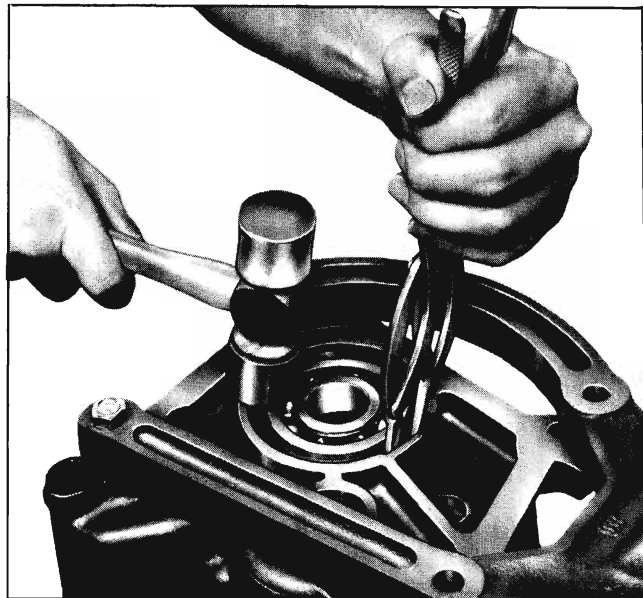

Fig. 7-30 Removing Mainshaft Bearing
8. To remove the mainshaft bearing from the case, fully expand retaining ring and start bearing out by tapping on outer race (Fig. 7-30). Then drive bearing out of case.